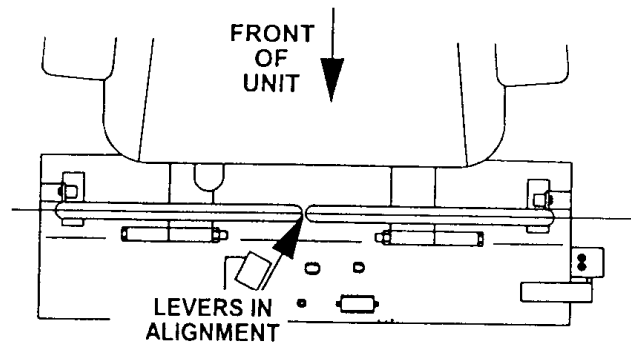

Figure 5
- If the ends of the levers hit against each other, while in the drive position (Fig 5) (levers rotated in as far as possible) make adjustments by moving the levers outwards to the neutral lock position and carefully bend them outward. Move them back to the drive position and check for clearance. Repeat if necessary.